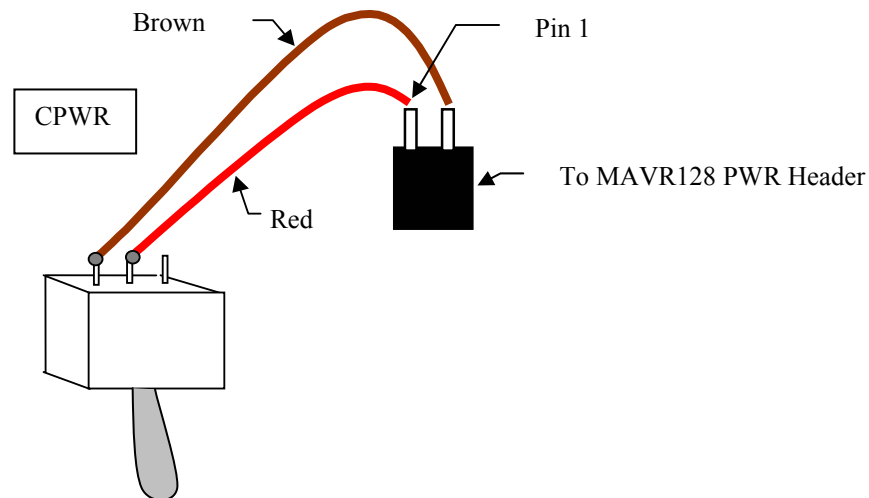

Figure 36 Wire the Power-On toggle switch to CPWR and connect to MAVR128™ PWR Header.
Refer to **Figure 36**, **Figure 22**, **Table 13**, and **Table 14**.
2. Solder the ends of CPWR to the switch as shown in **Figure 36**.